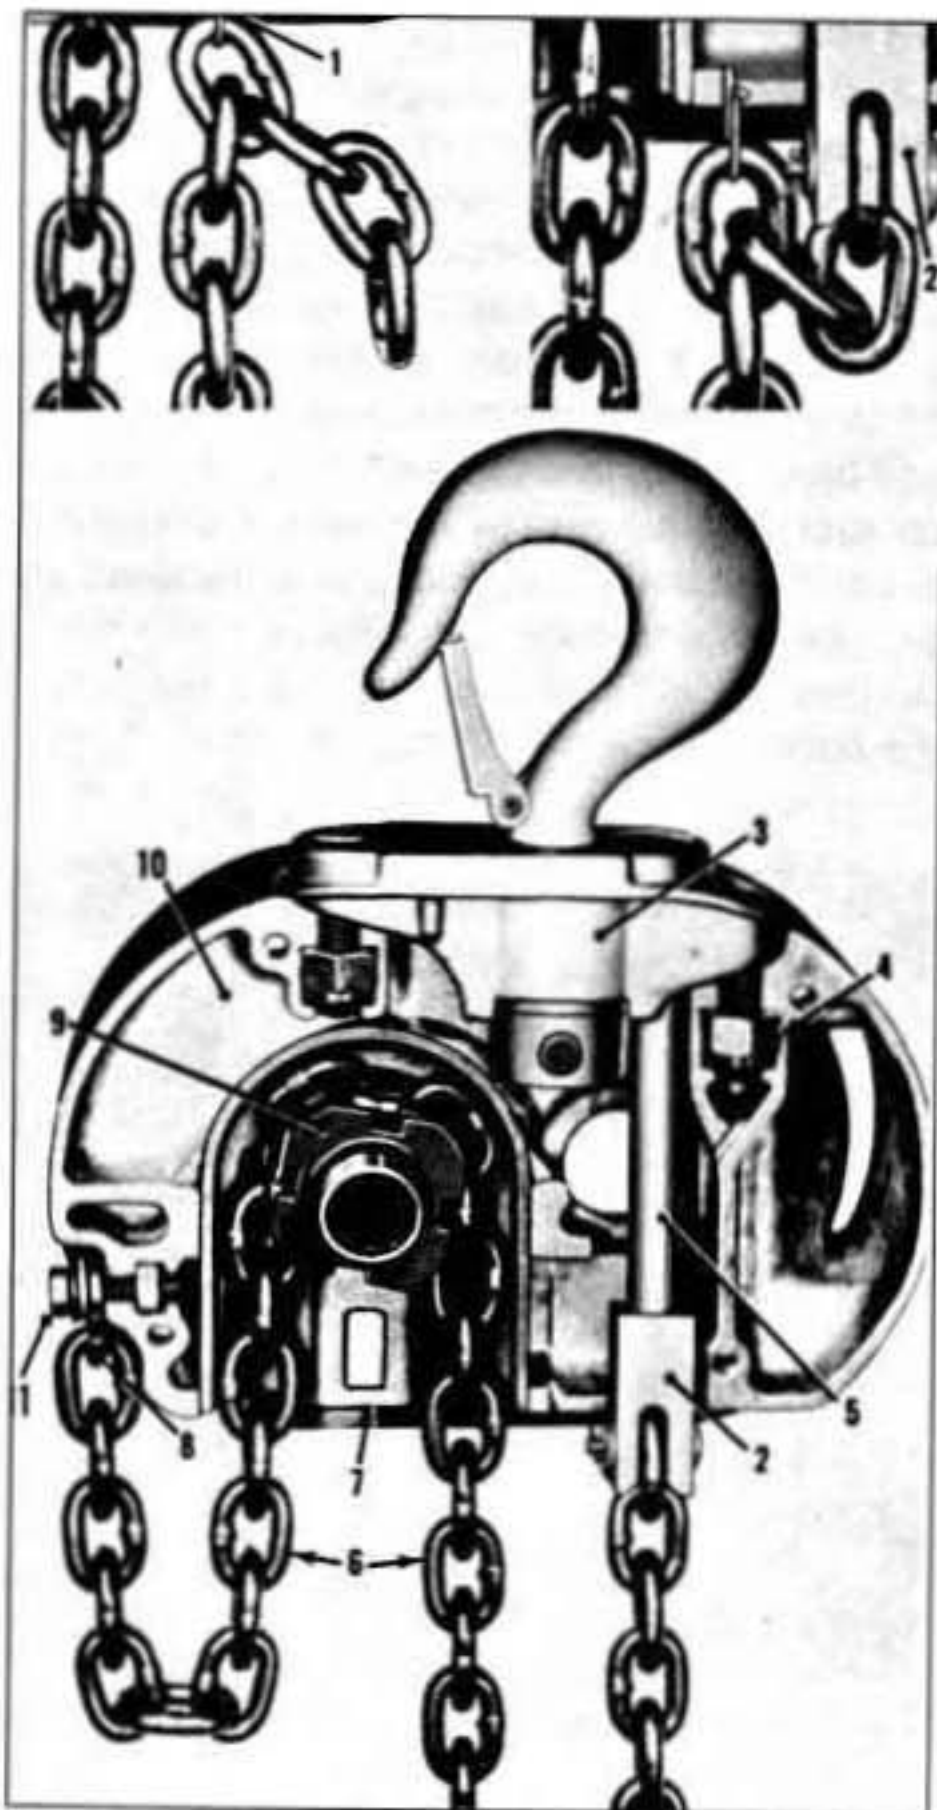
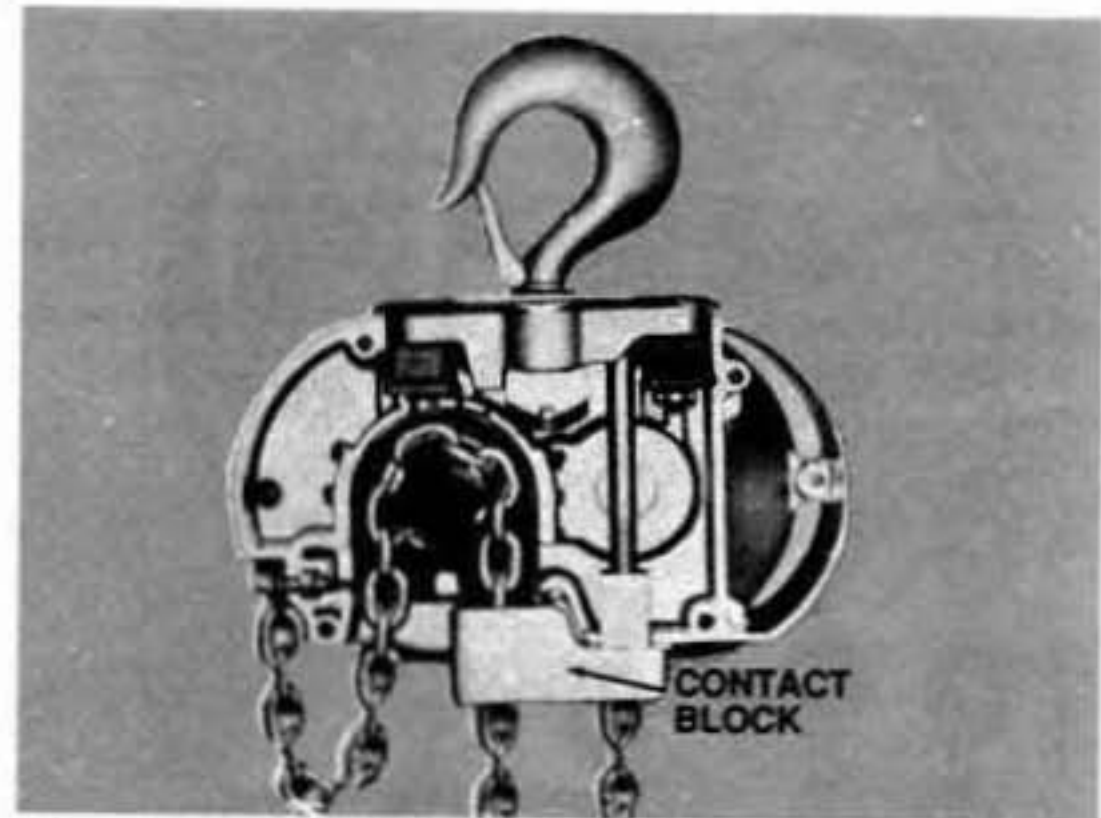

Figure 7. Attaching Load Chain
Figure 8. Contact Block Used On Models R, R-2, RR and RR-2
Remove the hook or lug suspension from its carton and the two suspension screws, dead end pin, washer and cotter pin. It should be noted that the suspension includes a dead end bolt and block for supporting the dead end of the load chain as shown in Figure 7.
Place the suspension assembly into the recess on top of the hoist. The dead end block should project through the bottom of the hoist with the pin hole and slot aligned to the underside of the hoist as shown in Figure 7. If these are not aligned as shown, lift the head of the bolt from the hex recess in the adapter and turn the bolt and block assembly and reseal the bolt head to obtain the proper alignment. **Do not** change the position of the dead end block on the bolt to attain this alignment.
The Models E, E-2, H, H-2, R, R-2 and RR-2 are shipped with the dead end of the load chain temporarily connected to the bottom of the hoist by a light wire clip (1) as shown in Figure 7. The clip is located a few links from the end of the chain, and it should not be removed until the chain is to be attached to the dead end block (2). To attach the chain to the dead end block, proceed as follows:
2. The hoist is shipped with the dead end of the load chain temporarily positioned a few links from the end by a light wire clip (1) as shown in Figure 7. Do not remove this clip until the chain is secured.
3. On Models E, E-2, H and H-2, insert the last link of the load chain into the dead end block (2) and secure it with the dead pin, washer and cotter pin furnished with the suspension. Remove the clip (1) by inserting a screw driver blade through a chain link and levering against the bottom of the hoist.
clip (1) by inserting a screw driver blade through a chain link and levering against the bottom of the hoist. Slide the contact block up the chain until it is against the bottom of the hoist and the dead end block is projecting through the square opening in the bottom of the block. Insert the last link of the load chain, making sure there are no twists between the hook block and the dead end block, into the dead end block. Push the contact block up slightly and secure the load chain to the dead end block using the dead end pin, washer and cotter pin furnished with the suspension. The dead end pin also supports the contact block (See Figure 8).